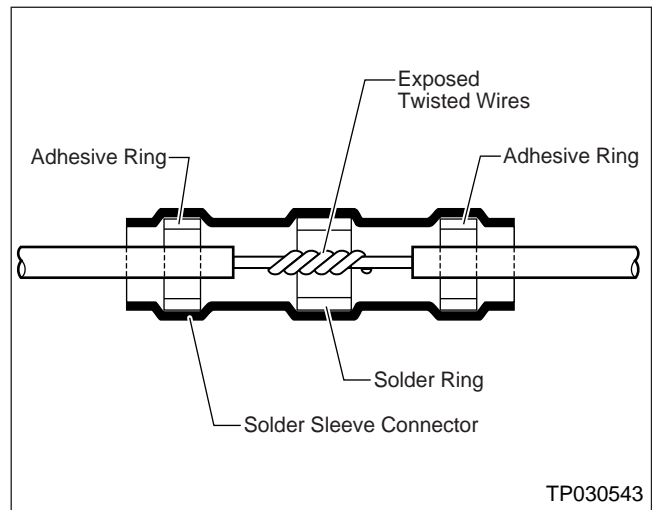

Figure 9
- D. Position the Solder Sleeve Connector so that the solder ring (in the connector) is centered around the exposed twisted wire area (see Figure 9).